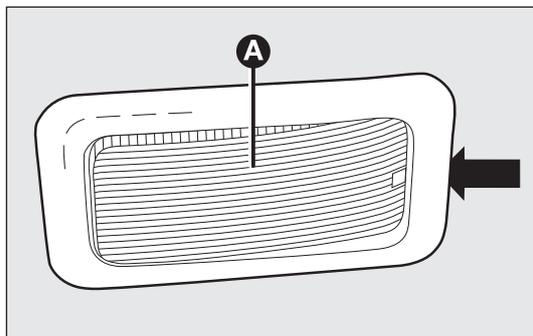

fig. 160
- using the screwdriver provided, extract the ceiling light A-fig. 160 working in the point shown by the arrow;